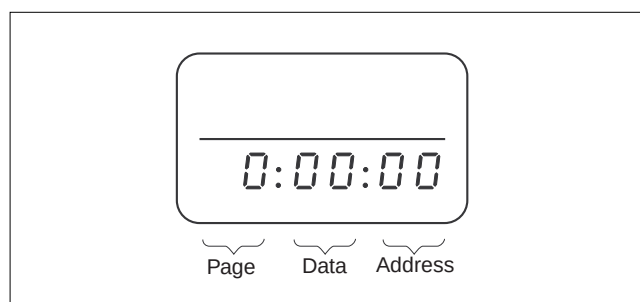

Fig. 6-3-1
- 2) Set the HOLD switch of the adjustment remote commander (RM-95) to "HOLD" (SERVICE position). If it has been properly connected, the LCD on the adjustment remote commander (RM-95) will display as shown in Fig. 6-3-1.